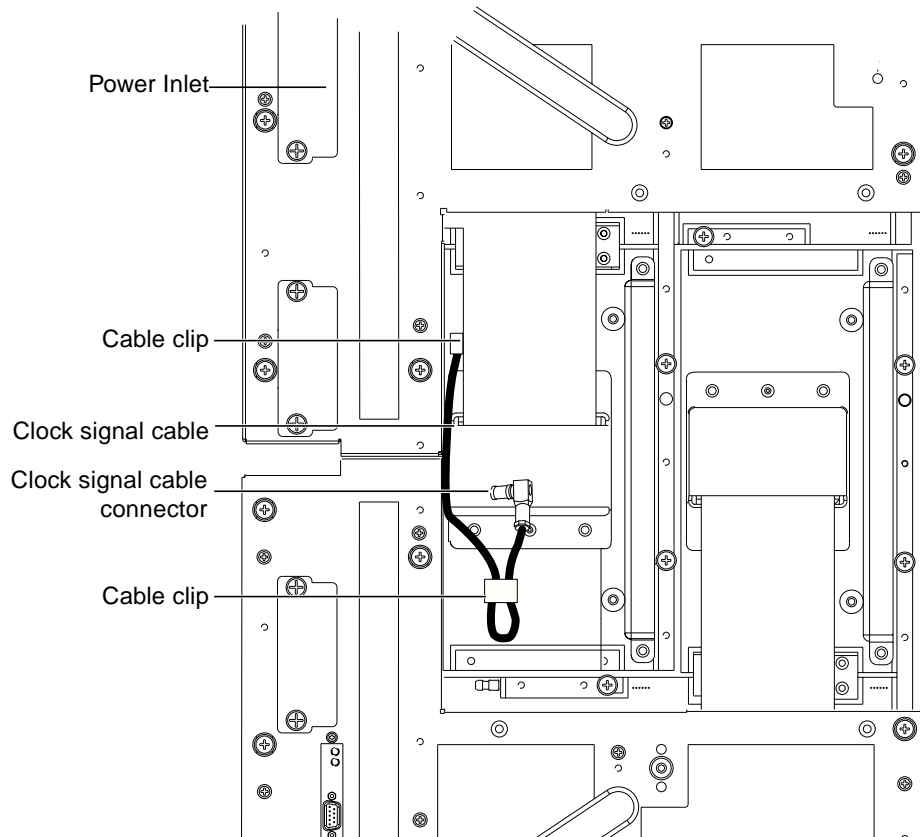

FIGURE 3-4 Securing the Clock Signal Cable
6. Secure the cable using the cable clip provided, as shown in FIGURE 3-4.